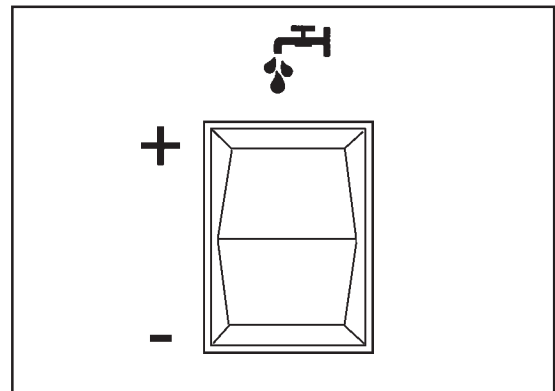
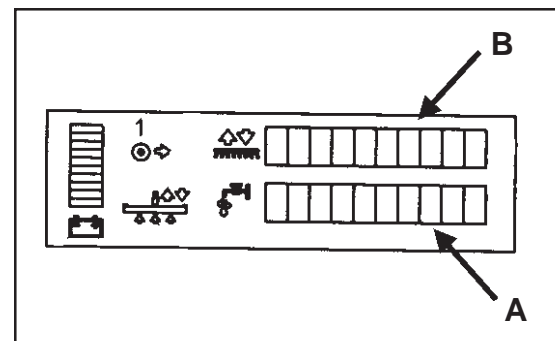
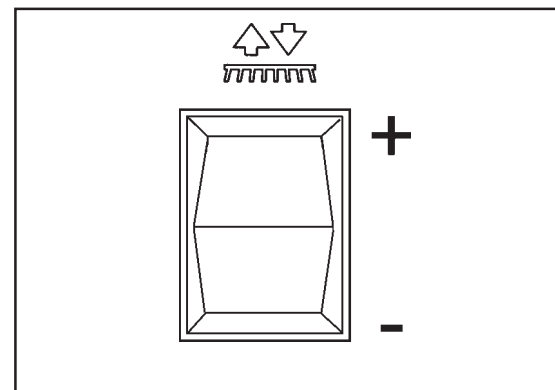

Figure 26
Figure 27
Figure 28
The solution is used to loosen and remove dirt from the floor. The amount of solution applied can be adjusted to five different levels to accommodate many different floor conditions. These different levels are shown on the LCD display on the front of the machine. To adjust the amount of solution applied, use the Solution Flow Switch (figure 26). **NOTE: There are five different settings on the display. See figure 28, A.**
1. Press the “+” side of the switch (figure 26).
1. Press the “-” side of the switch (figure 26).
The brushes are used to supply agitation for the solution, which improves the cleaning process. The amount of brush pressure applied can be adjusted to five different levels to accommodate many different floor conditions. These different levels are shown on the LCD display on the front of the machine (figure 27, B). To adjust the amount of brush pressure, use the brush up/down switch (figure 28).
1. Press the “+” side of the switch (figure 28).
1. Press the “-” side of the switch (figure 28).